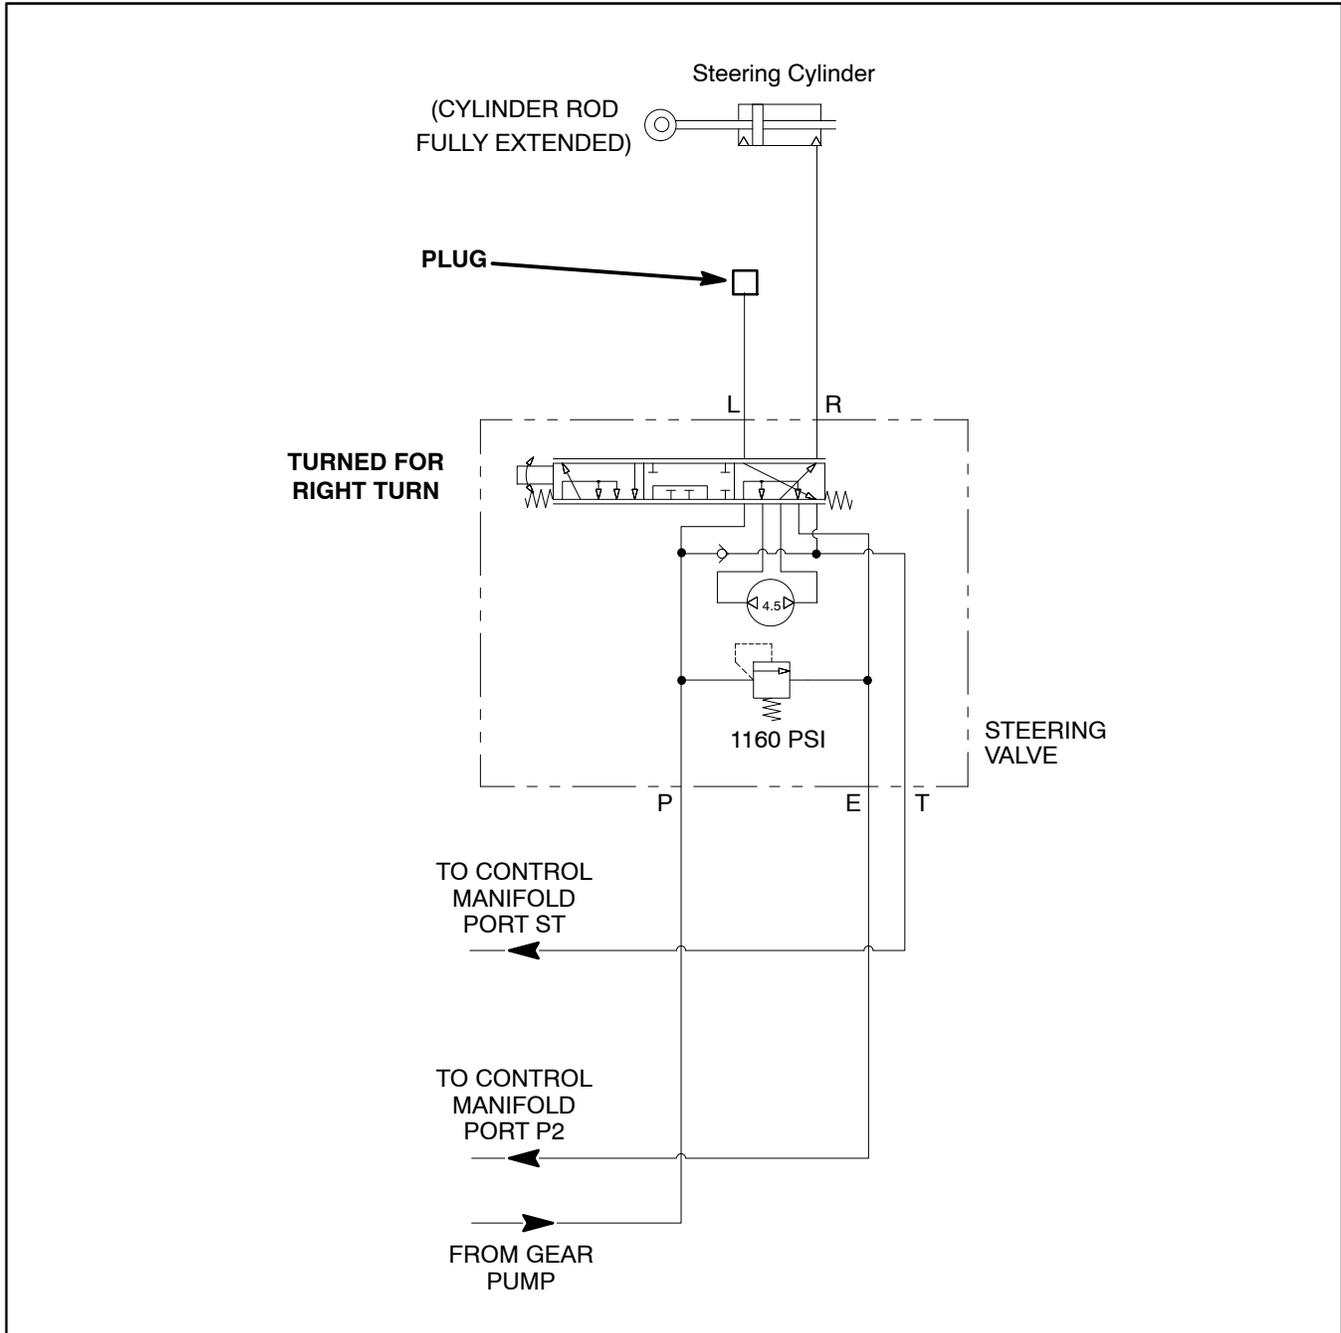

Figure 29
10. After achieving **1000 PSI (69 bar)**, place disconnected motor case drain hose into a container graduated in ounces or milliliters (Tool TOR4077: see Special Tools) and collect hydraulic fluid for **15 seconds** (Fig. 29). After **15 seconds**, remove hose end from container.